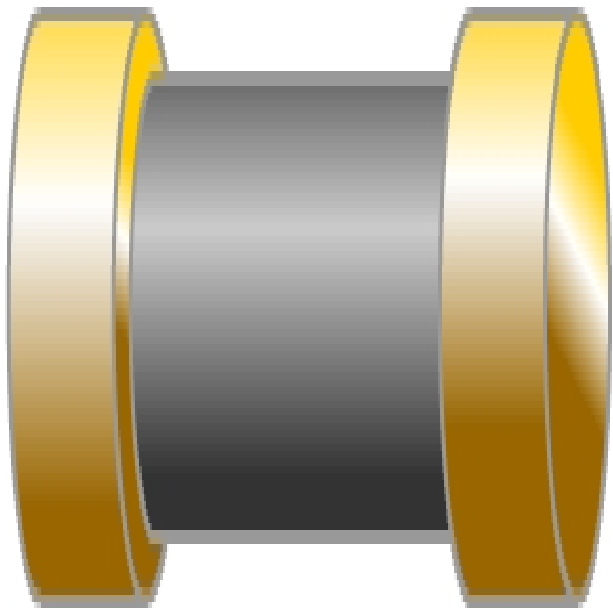

Figure 8-83 – Ferrule type of fuse.
60. Fuse panels that use the ferrule type of fuse have specially designed fuse clips in which only ferrule types will fit. Fuse diameter and length increase as amperage and voltage increase. Ferrule fuses are used in circuits up to 600 volts. *Figure 8-83* shows a typical ferrule type of fuse.